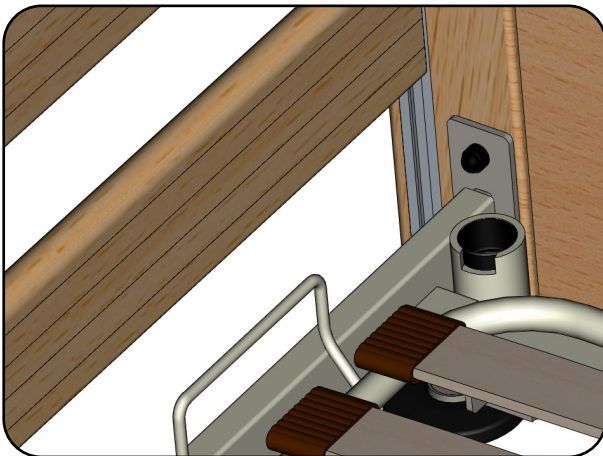
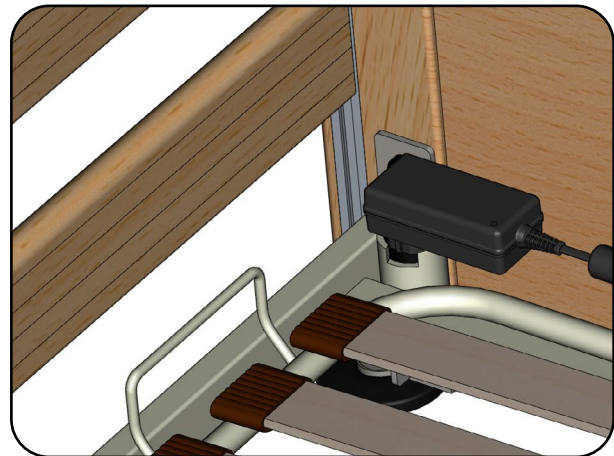

Fig. 9.01 – Free uplifter holder with transport lock
Fig. 9.02 – Mains adapter in transport lock
**Disconnect the product from the mains supply before beginning transport. Use the transport lock during transport in order to avoid driving over the power cable and dropping the mains adapter (Fig. 9.02).**
The transport lock is located in the free uplifter holder (Fig. 9.01). To move the product, wrap the power cable around the bed surface and insert the mains adapter in the transport lock (Fig. 9.02).